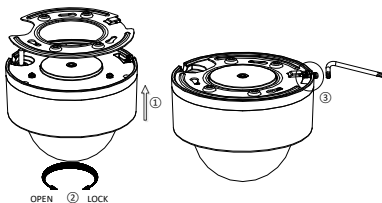

Figure 2-49 Fix the Camera
6. Fix the screws on the side with a screwdriver, as shown in Figure 2-49.